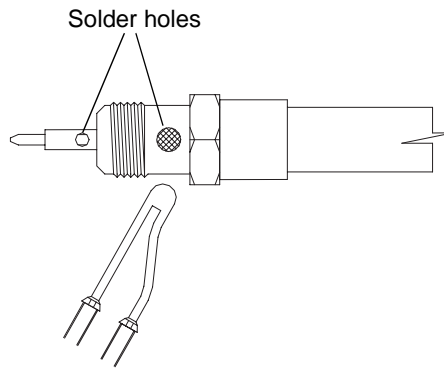

Figure 18. Soldering the Coax Cable and Connector Body
- 4 Solder the cable to the connector body at the points indicated in Figure 18.